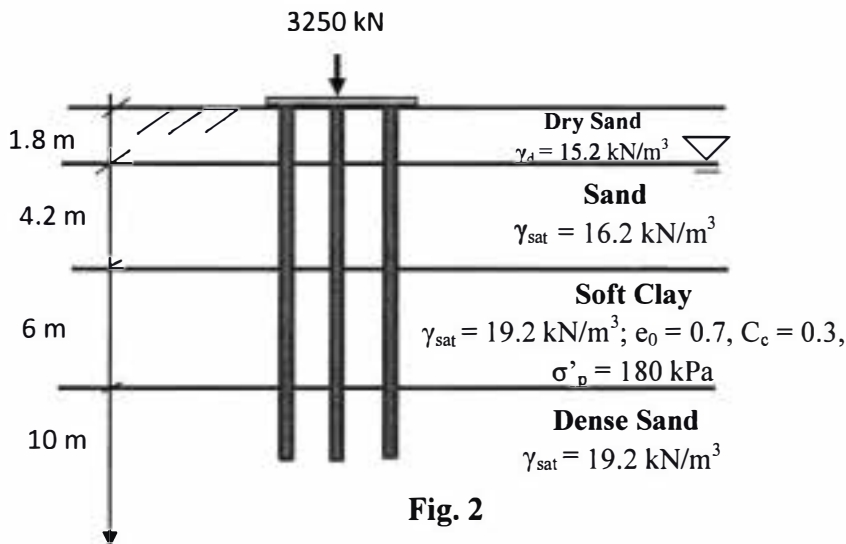

Fig. 2
- 2.(b) Calculate the primary consolidation settlement of soft clay around a group of 9 piles. The soil profile is given in Fig. 2. 12